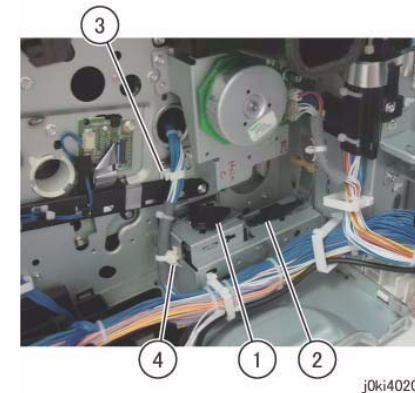

Figure 5 Remove the Cable Supports
11. Remove the Cable Supports (x2). (Figure 5)